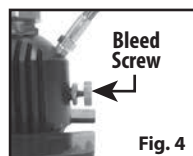

Fig. 4
- Make certain the bleed valve on the hand pump is fully closed (tighten in a clockwise direction) (Fig. 4).